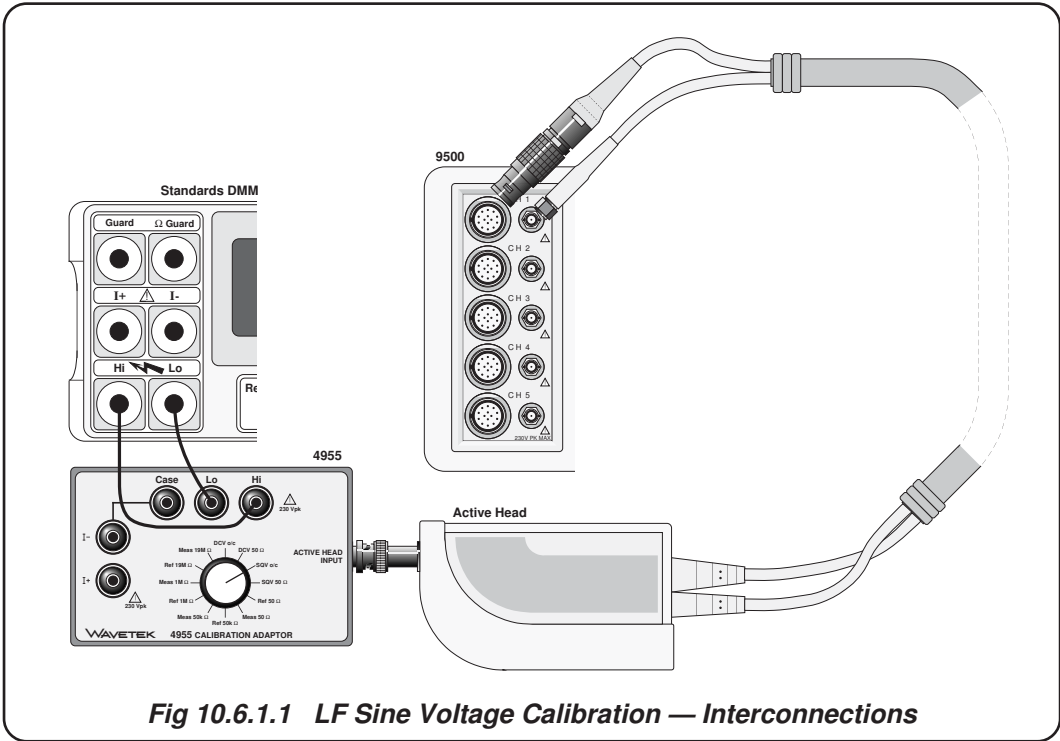

Fig 10.6.1.1 LF Sine Voltage Calibration — Interconnections
- Connections** Ensure that the 9500B is connected to the DMM as shown in *Fig. 10.6.1.1* overleaf, or via a similar BNC or PC3.5 to 4mm adaptor, and that both instruments are powered on and warmed up.